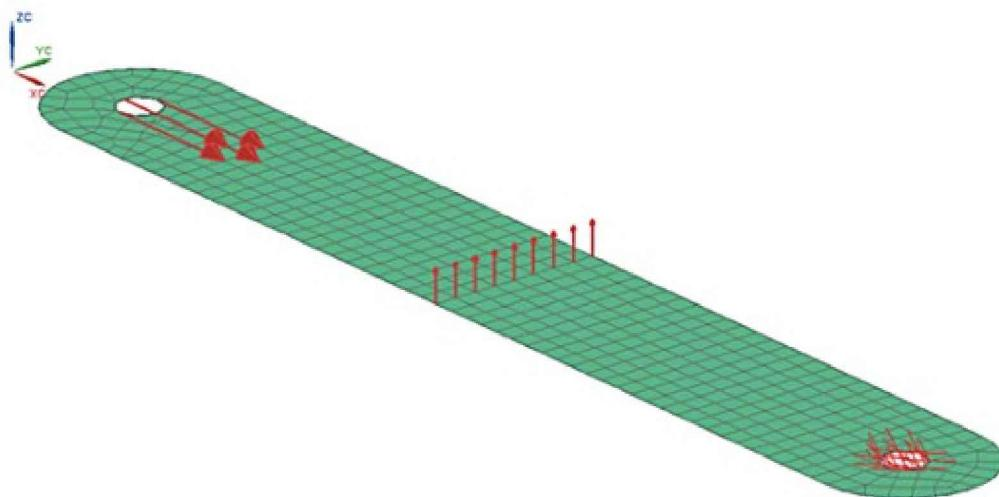

Figure 2.15. Loads and boundary conditions
- Click *Select Object* to select nodes in the central region of the part as shown in Figure 2.15.